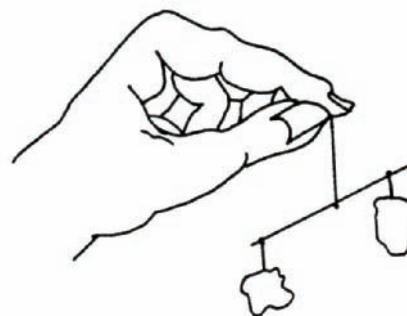

Figure 5.7.
7. Construct a balanced mobile, following the drawing (see Figure 5.7). It is easiest to begin at the lowest section of the mobile, balance that section, and then work toward the top, balancing each additional section as it is added.